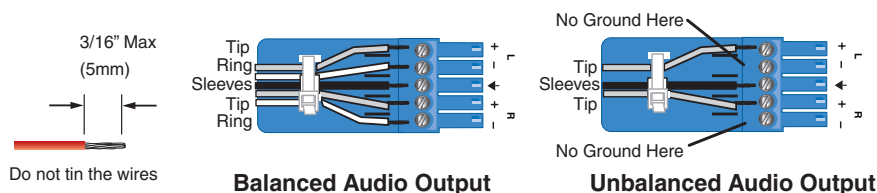

Figure 3. Captive Screw Connector Wiring for Audio Output
- E Analog audio outputs** — Connect audio devices, such as an audio amplifier or powered speakers, to these 3.5 mm, 5-pole captive screw connectors. The connectors output the selected unamplified, line level audio de-embedded from the HDMI and DisplayPort inputs (see figure 3 to properly wire an output connector). Use the supplied tie-wrap to strap the audio cable to the extended tail of the connector.